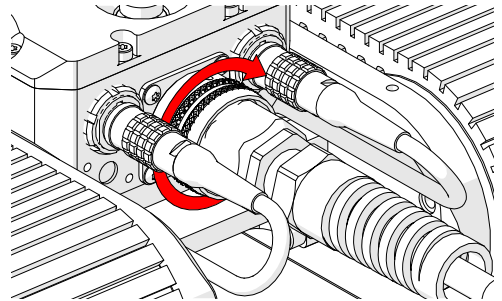

Fig. 50 - Twist to secure umbilical connection
2. Twist the umbilical's sleeve clockwise, locking the umbilical in place (Fig. 50).